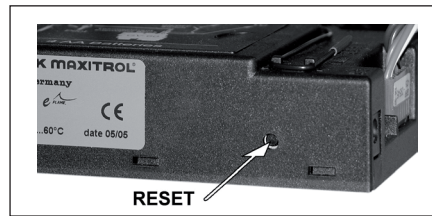

Figure 8: Receiver with Reset button
2. Press and hold the receiver’s reset button until you hear two (2) acoustic signals. After the second longer acoustic signal, release the reset button and within the subsequent 20 seconds, press the ▼ (down arrow) on the remote handset until you hear an additional long acoustic signal confirming the new code is set (see figure 8).